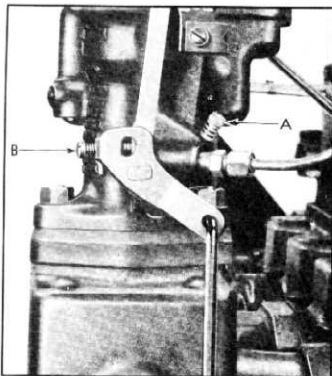

Fig. 83—Carburetor Idle Adjustment
1. Screw idle adjusting screw "A" (fig. 83) all the way in. 20744003
- Adjust throttle lever stop screw "B" (fig. 83) so engine runs at approximately 450 to 500 revolutions per minute.